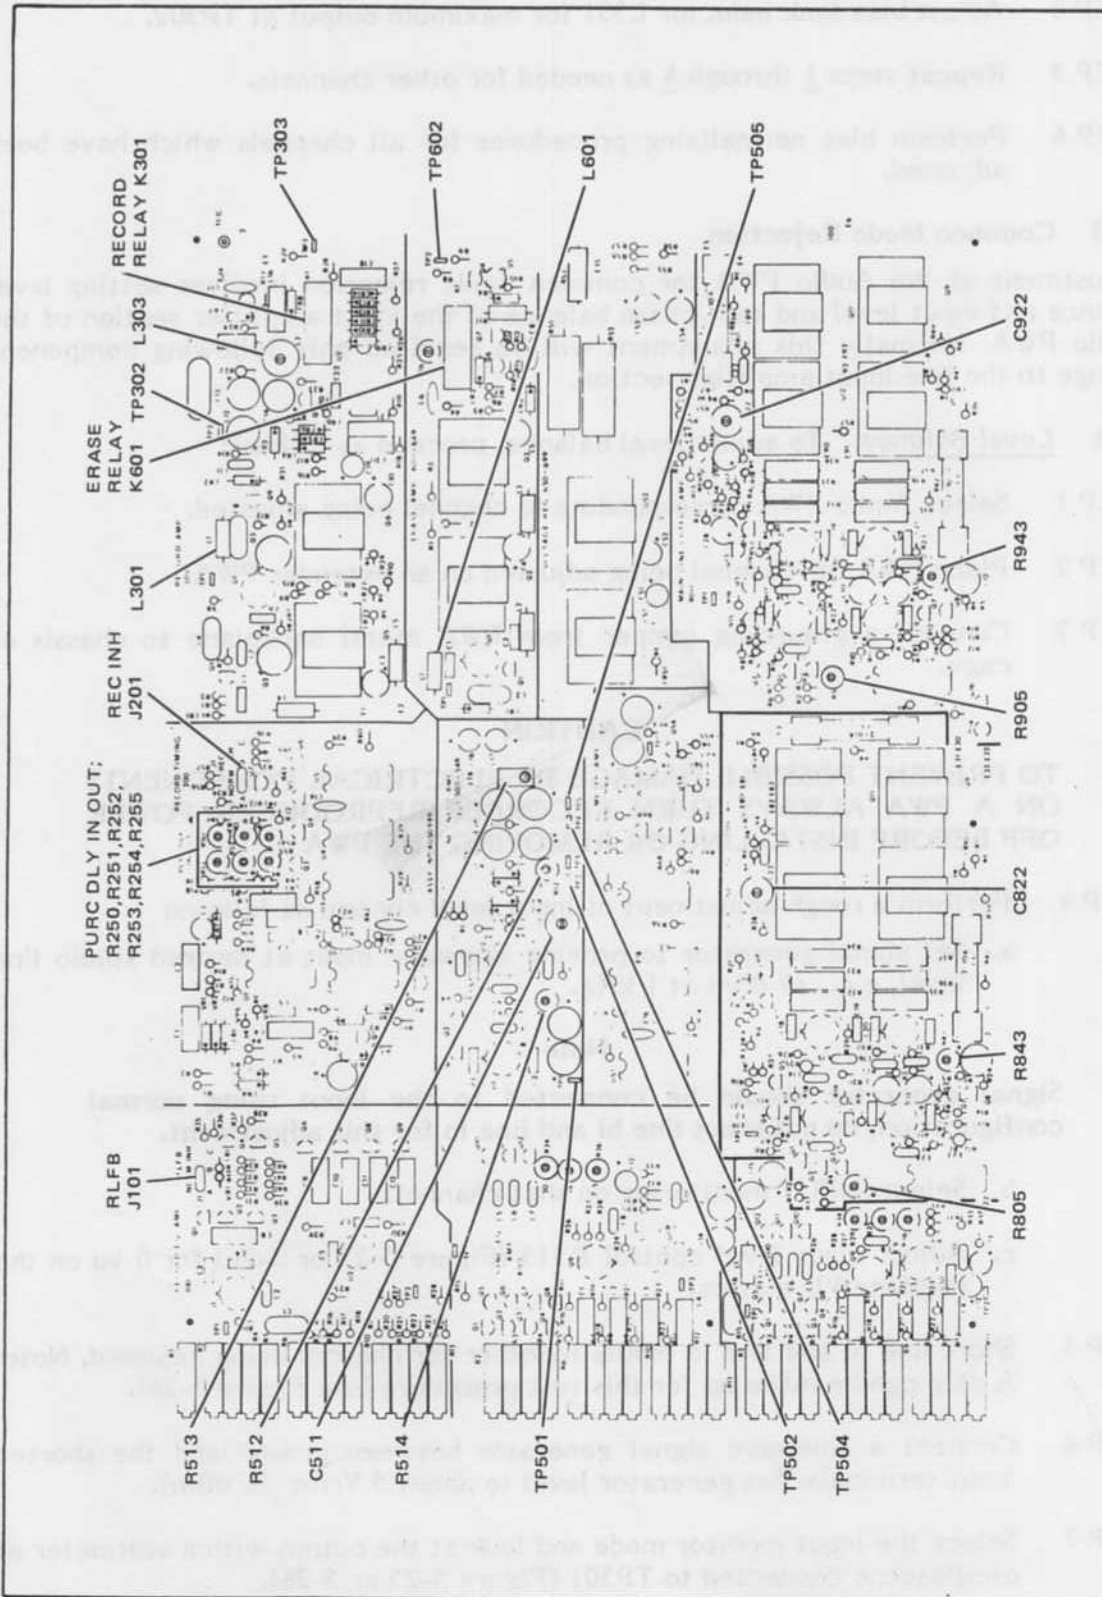

Figure 5-25. Audio PWA Assembly No. 4050989 Adjustments, Jumpers, and Test Points
- c. Adjust input level control R513 (Figure 5-25 or 5-26) for 0 vu on the machine VU meters.
- STEP 7 Select the input monitor mode and look at the output with a voltmeter or oscilloscope connected to TP501 (Figure 5-25 or 5-26).